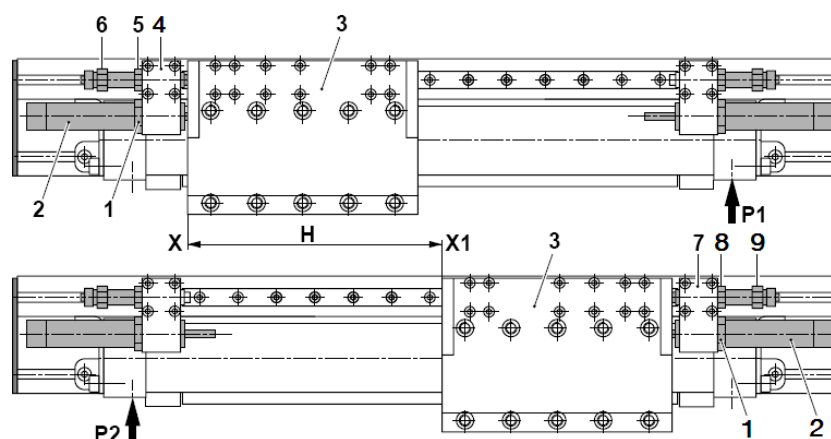

Fig. 30 Adjustment of stop screws PMP-c
1. Loosen the lock nut (Fig. 30, 1) and unscrew the shock absorber (Fig. 30, 2) by counterclockwise turns.
- The slide (Fig. 30, 3) of the module moves to the limit by the end stop (Fig. 30, 4).
3. Loosen lock nut (Fig. 30, 5).
4. Determine the rear position X by turning the stop screw (Fig. 30, 6).
5. Secure lock nut (Fig. 30, 5).
- The slide (Fig. 30, 3) of the PMP moves up to the limit by the end stop (Fig. 30, 7).
7. Loosen lock nut (Fig. 30, 8).
8. Determine the front position X1 by turning the stop screw (Fig. 30, 9).
9. Secure lock nut (Fig. 30, 8).